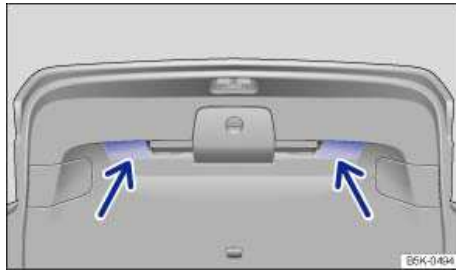

Fig. 29 Opened rear hatch: Recessed grips for closing.
- Grasp one of the recessed grips in the rear hatch trim ⇒ fig. 29 (arrows).